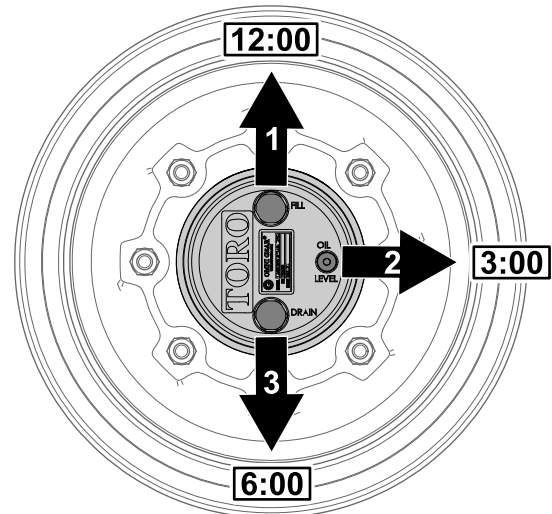

Figure 65
1. Park the machine on level surface, position the wheel so that the fill plug is at the 12 o'clock position, the check plug is at 3 o'clock position, and the drain plug is at the 6 o'clock position (Figure 65).
2. Remove the check plug at the 3 o'clock position (Figure 65).
1. Park the machine on level surface, position the wheel so that the fill plug is at the 12 o'clock position, the check plug is at 3 o'clock position, and the drain plug is at the 6 o'clock position; refer to Figure 65 in Checking the Planetary Gear-Drive Lubricant (page 57).